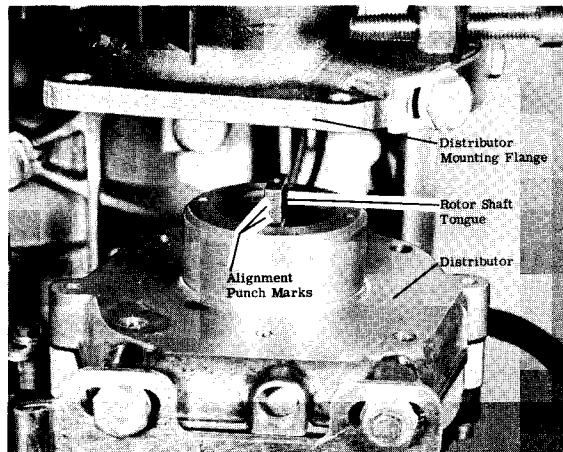

Figure 2. Timing Mark on Offset Tang Face
2. The offset face of the tang is considered the timing mark. (Figure 2) Drive shaft spring is located in ground out portion which is closes in line with timing belt pulley keyway. This spring has to line up with ground off portion of distributor drive tab before assembling distributor to distributor pilot assembly